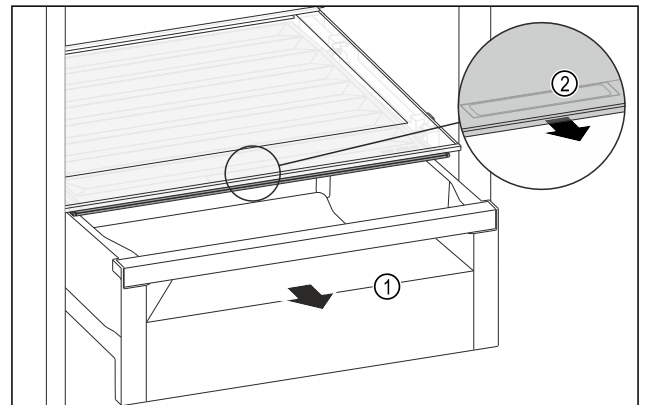

Fig. 187
- Pull out the drawer Fig. 187 (1).
- Grasp the recessed grip Fig. 187 (2) on the compartment lid and pull the compartment lid forwards at the same time.